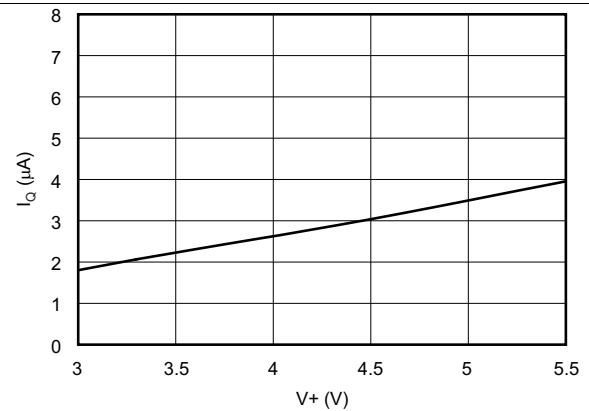

Figure 10. Shutdown Quiescent Current vs Supply Voltage
7.4.5 Shutdown Mode (SD)
The TMP401 shutdown mode (SD) allows the user to save maximum power by shutting down all device circuitry other than the serial interface, thus reducing current consumption to typically less than 3 μ A; see Figure 10 (*Shutdown Quiescent Current vs Supply Voltage*). Shutdown mode is enabled when the SD bit of the configuration register is high; the device shuts down when the current conversion is completed. When SD is low, the device maintains a continuous conversion state.